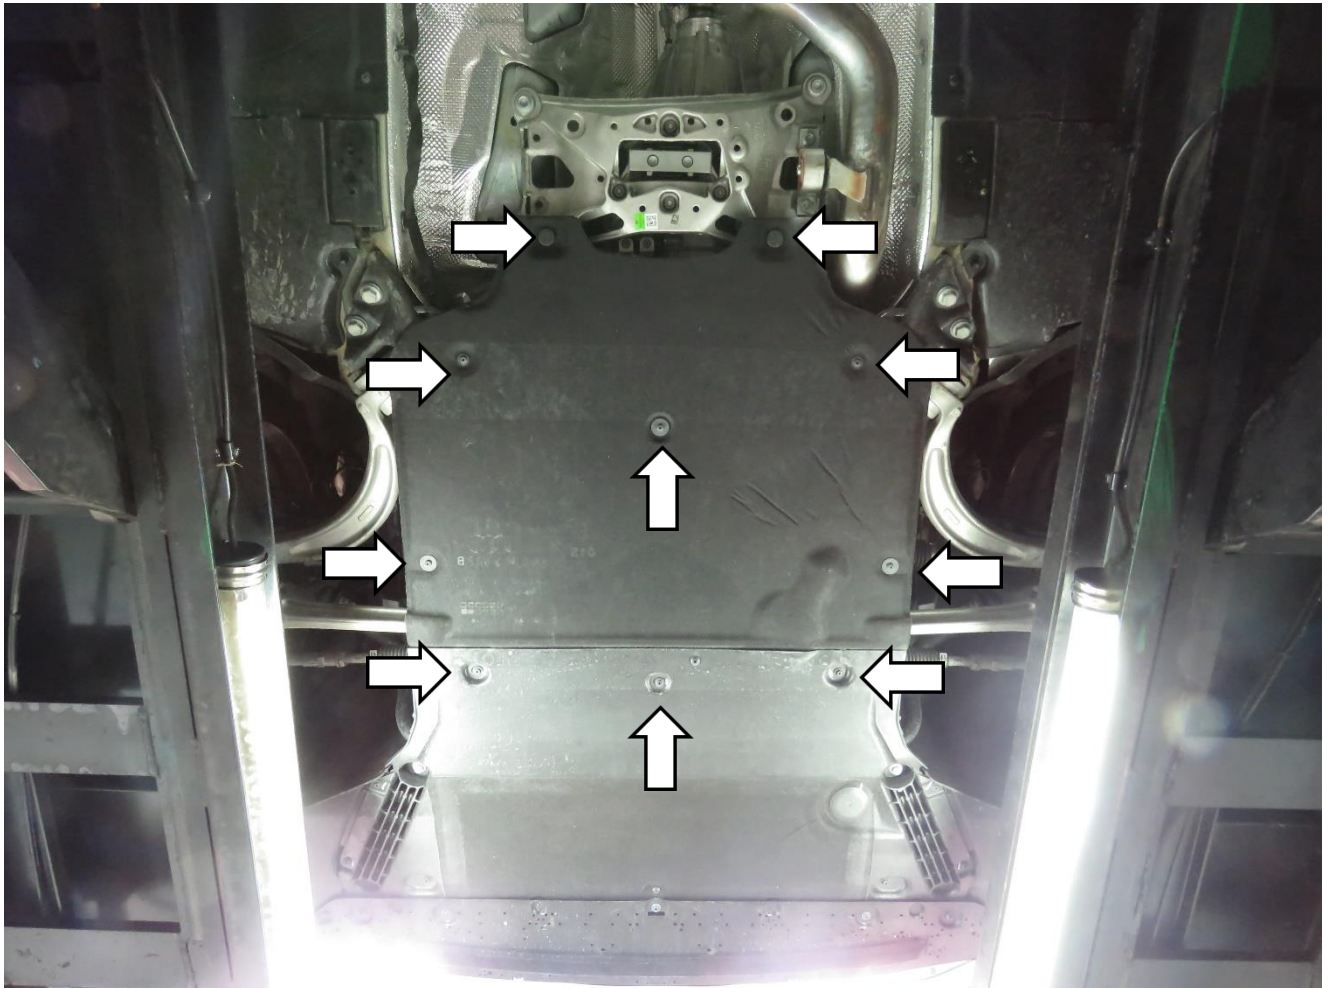

Figure 1
1. Remove the guard of the vehicle (Figure 1).